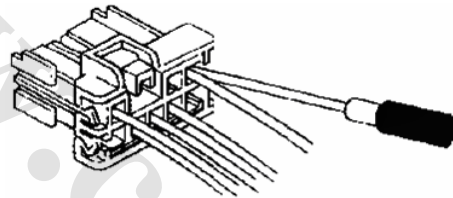

Fig. 4-9
12. Make the probe of tester cut in from the lead side (waterproof interface excluded). (Fig. 4-9)